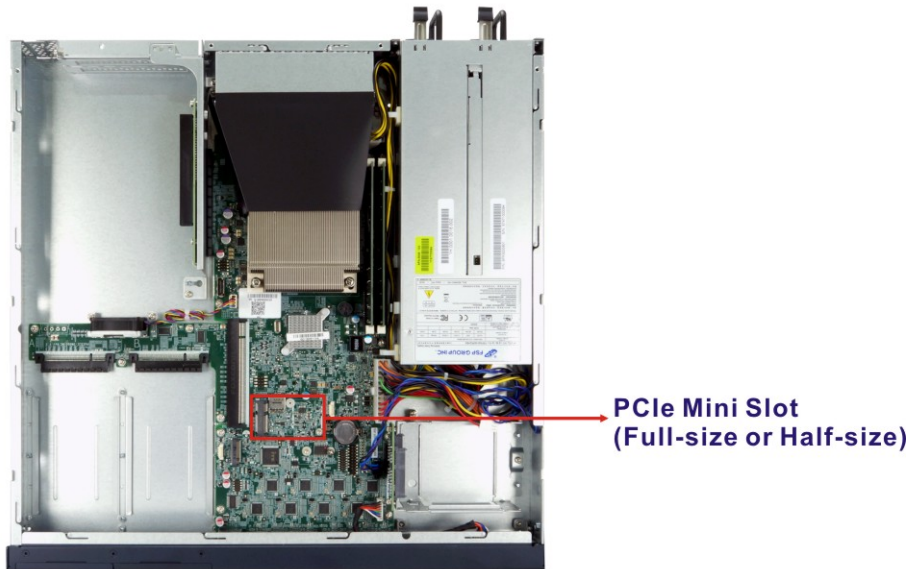

Figure 3-13: PCIe Mini Slot Location
- Step 2:** Locate the PCIe Mini slot on the motherboard (Figure 3-13).